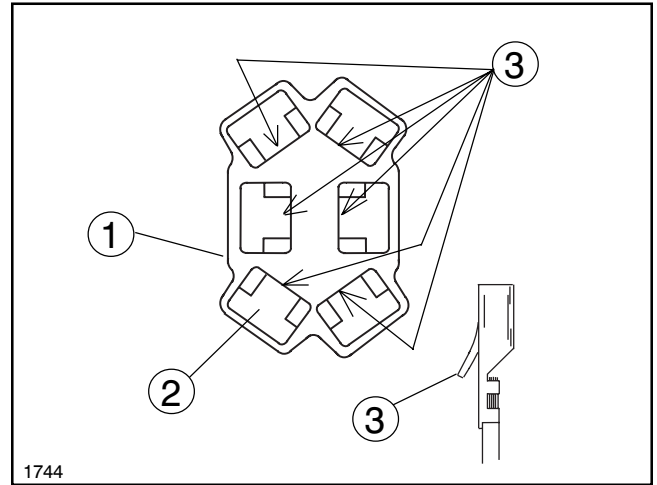

FIG. 6
b. Remove the wires/terminals from the 6-pin connectors using a small flat tip screw driver. Insert the tip of the screwdriver into a socket of the Connector from the side opposite of where the wires go in and on the side where the metal Tang of terminal locks into the connector. See FIG. 6. Press the Tang back completely and pull the wire/terminal from the socket.